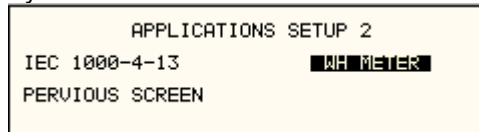

Figure 9-70: Application Screen
- From the Menu screen 2, select the APPLICATIONS SETUP 2 screen. The screen will appear as shown in Figure 9-70. Use the up and down key to position the cursor to the WH METER field. Press the Enter Key.